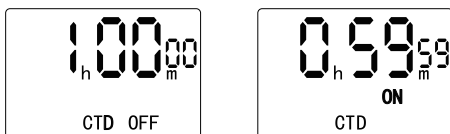

Figure 7-1
- After setting the CTD mode, short press the CTD button to start the CTD mode. At this time, the screen displays the CTD mode duration you have set and starts to count down. On the screen, "CTD OFF" changes to "CTD ON", as shown in Figure 7-1.